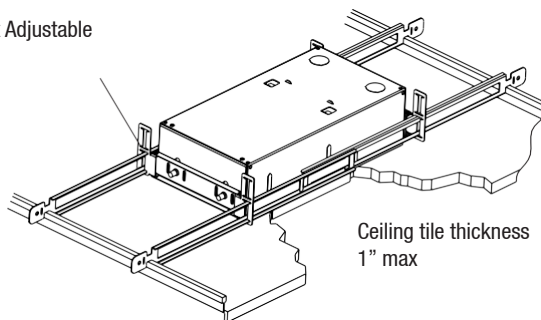

Figure 2: T-Bar Mounting Up to 2" High
1. To install backbox onto t-bars, orient the back box adjustable brackets to allow the hanger bars to slide through the "I" shaped opening (Figure 2). (**NOTE: to access the hardware for the hanger bar adjustment brackets, you must remove the splice cover and/or the battery. Refer to page 3 for instructions on removing the splice box cover, figure 7 and 8).** Adjust the height of bracket, mounted to the backbox, then tighten bolts inside the backbox. Hanger bars will rest directly on drop ceiling t-bars.